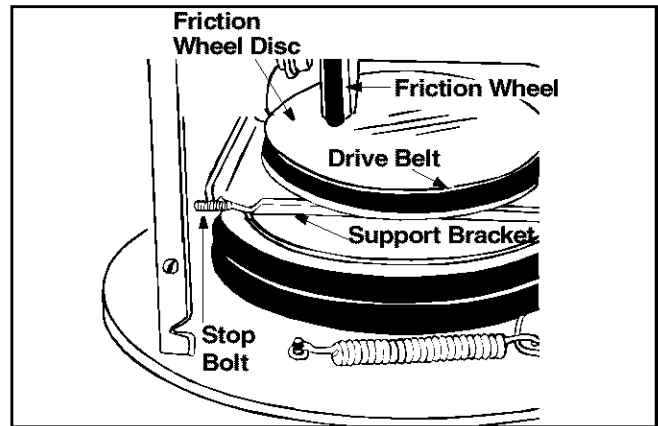

Figure 25
- Using a wrench, loosen the nut on the stop bolt until the support bracket rests on the auger pulley. See Figure 25.
NOTE: The support bracket must rest on the stop bolt after the new belt has been assembled. See Figure 25.